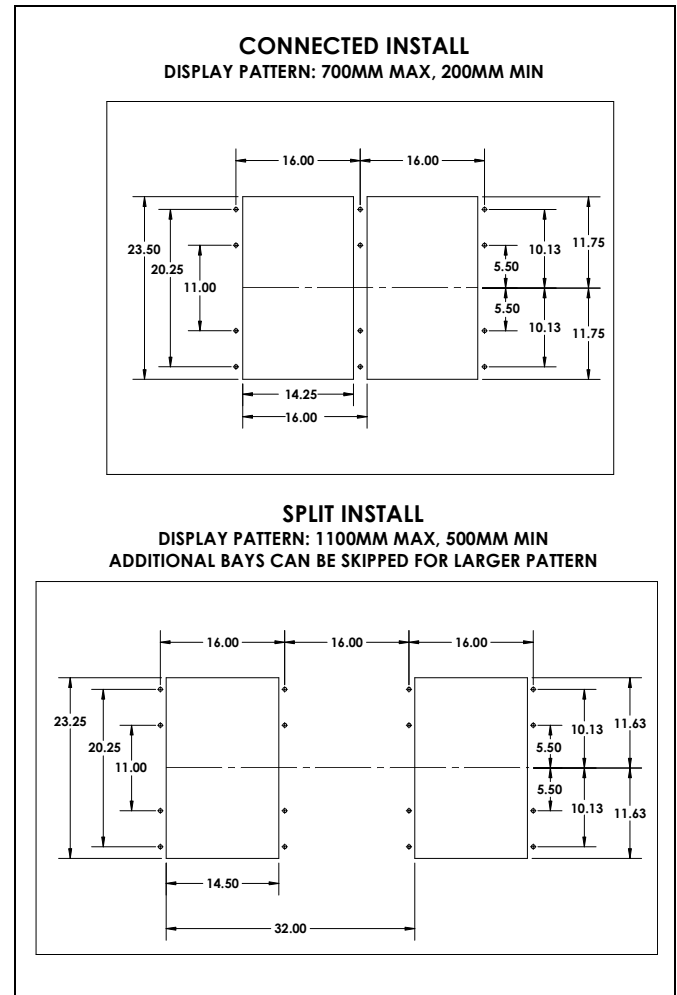

Figure 9
2. Use a drywall cutting tool to cut hole for box based on dimensions shown below (See Figure 9) or using wall template included with FPIWMKIT1.